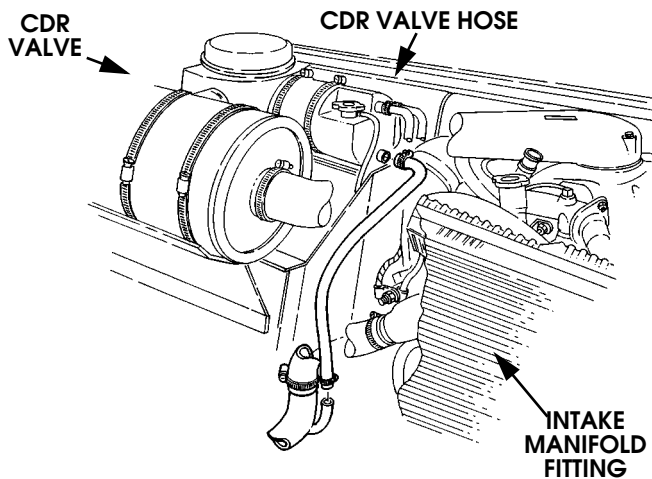

Figure 2-76: CDR Valve and Hose Installation
15. Install CDR valve and hose (Figure 2-76).